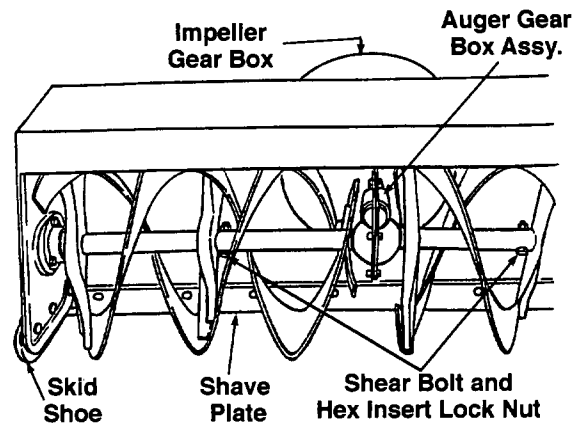

Figure 28
1. The augers are secured to the auger shaft with two shear bolts and hex insert lock nuts. Refer to Figure 28. If the auger is suddenly jammed by a foreign object or ice chunk, the bolts are designed to shear — minimizing potential damage to the gear boxes.